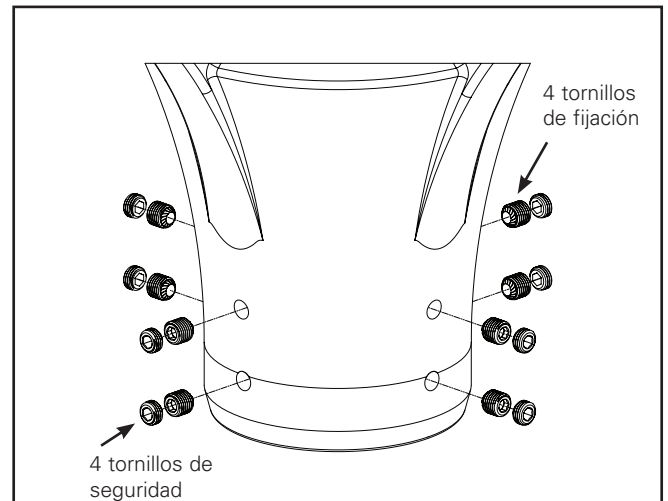

Figure 5.
- 7b. Instala ocho 3/8 - 24 x .3185" jam set screws and tighten to 100 in-lbs. (Figure 5)